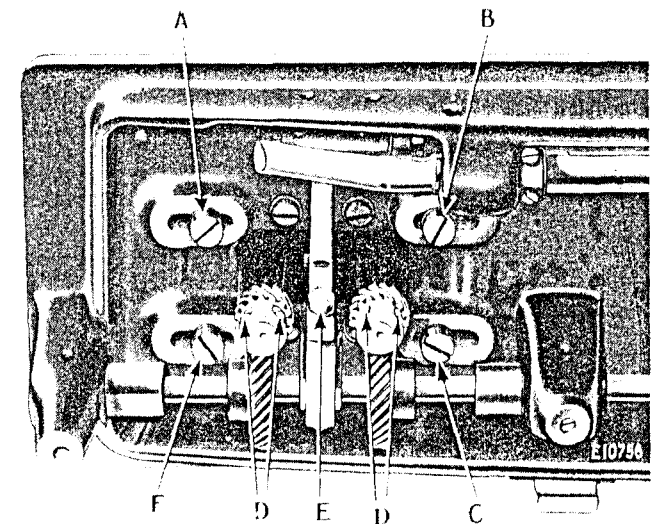

Fig. 19. Adjustment of Hook Saddles
In case the sewing hooks are not correctly timed, turn balance wheel over toward you until needle bar has descended to its lowest point and has risen until the lower timing mark across the needle bar is just visible at the end of the needle bar frame. Then loosen the four screws (D, Fig. 19) in the hook shaft gears and turn the sewing hooks until the point of each hook is at the centre of its needle, after which securely tighten the four screws (D), leaving just enough end play to the shaft for lubricating purposes.
Turn the balance wheel over toward you until the points of the sewing hooks are at the centre of the needles. Loosen the four screws (A, B, C and F, Fig. 19) underneath the bed of the machine and move the hook posts to the right or left, as may be required, until the points of the hooks are as close to the needles as possible without striking them, then securely tighten the four screws (A, B, C and F).
Remove the throat plate; clean the lint and dust from between the feed points and replace the throat plate; tip the machine back and turn the balance wheel towards you until the feed dog is at its highest position; loosen screw (E, Fig. 19) in the feed lifting cam fork and raise or lower the feed dog, as may be required, then retighten the screw (E).
Change the needle holder, throat plate, feed dog and presser foot, then loosen the four screws (A, B, C and F, Fig. 19) which hold the hook posts and move each post until the point of the hook runs as close to the needle as possible without striking, then time the hooks as instructed on page 17.